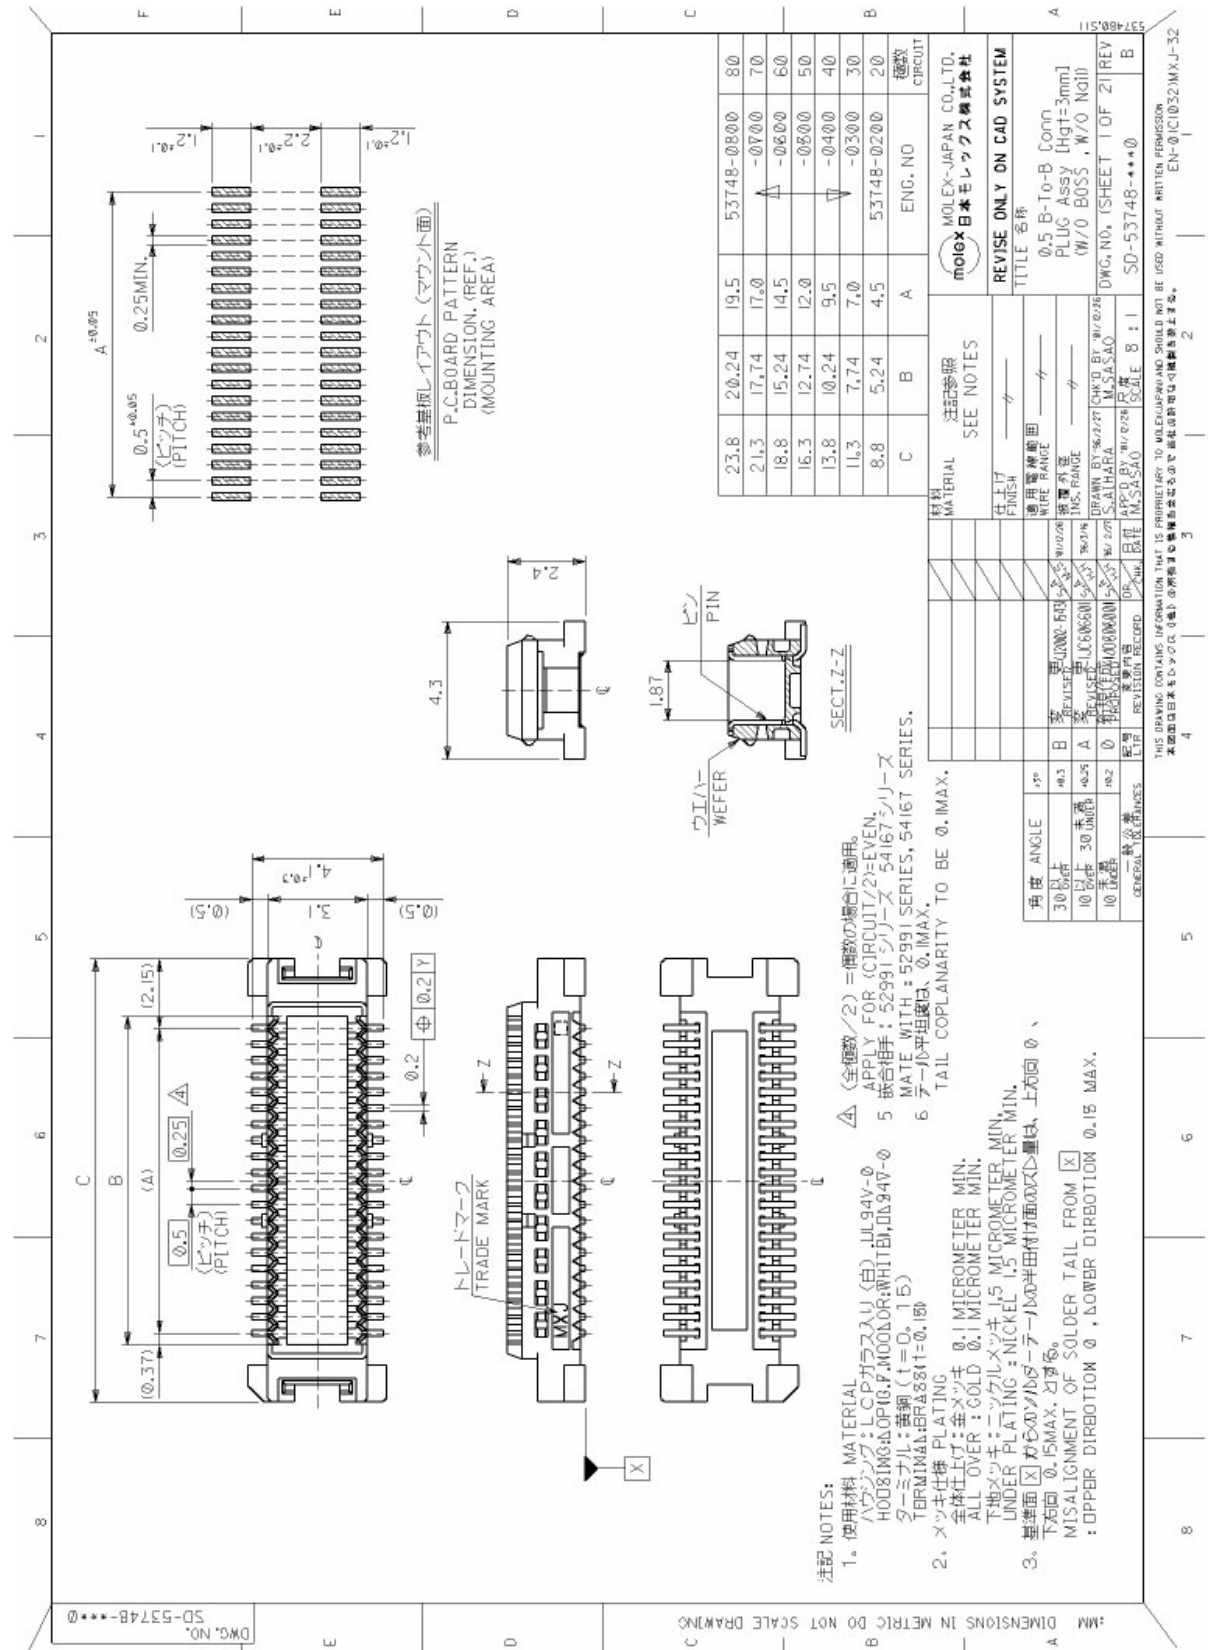

Figure 12: Mating board-to-board connector 53748-0808 on application
- 53748-0808 SlimStack Plug, 3mm stacking height, see Figure 12 for details.